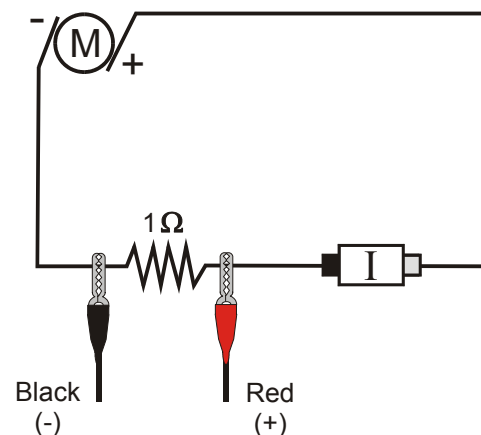

Figure 2
5. Connect the motor, 1 Ω resistor, wires, and clips as shown in Figure 2. Take care that the red lead from the motor and the red terminal of the Current Probe are connected